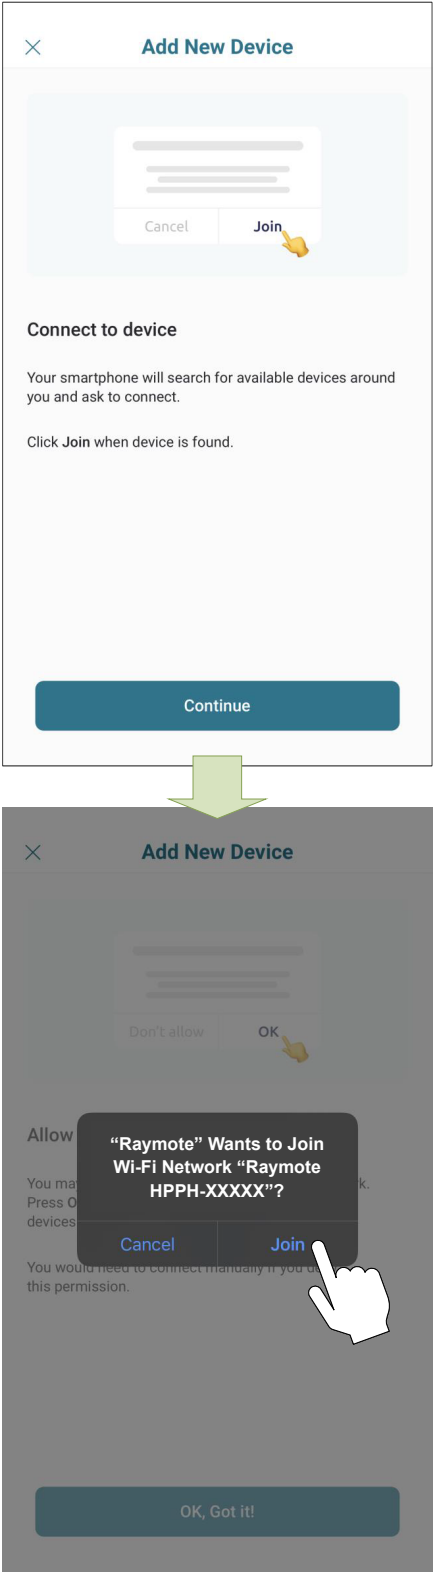

Figure 81. Connecting with iPhone
4. **In iPhone:** Raymote app will start to scan nearby heaters. If you have multiple units ready to connect, stand closer to the unit you want to connect first. Press "Join" to select the displayed heater that matches the HOTSPOT identifier, or press "Cancel" to start the process again. See Figure 81.